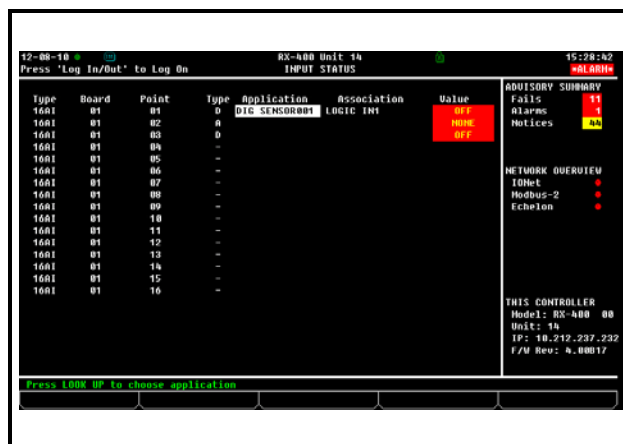

Figure 9-4 - Input Status Screen
Open the Analog Input screen by selecting an Analog (**A**) input from the Input Status screen **Figure 9-4** and pressing **F1** (SETUP).
The Analog Input screen **Figure 9-4** is where sensor types, units, and default values are specified for analog input points.
Open the Digital Input screen by selecting a Digital (D) input from the Input Status screen *Figure 9-4* and pressing **F1** (SETUP).